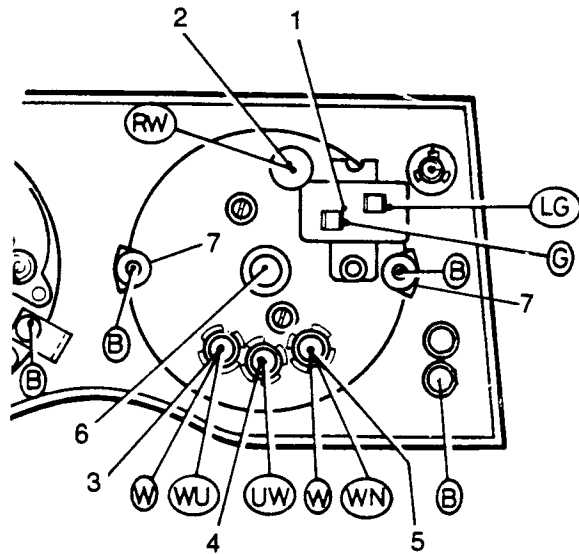

Fig O5.24
- (1) Refer to Fig O5.24. Hold the speedometer in front of the instrument panel, refit the warning and illumination lamp holders and leads to the following:
- a. The voltage stabiliser (1).
- b. The illumination hole (2).
- c. The cold start warning lamp mounting (3).
- d. The headlamp main beam warning lamp mounting (4).
- e. The oil pressure warning lamp mounting (5).
- (2) Fit the speedometer into the instrument panel and reconnect the speedometer drive cable into its fitting (6).
- (3) Replace the earth lead eyelets, shakeproof washers and clamp brackets. Secure with the knurled nuts (7).
- (4) Refit the instrument panel to the dash.